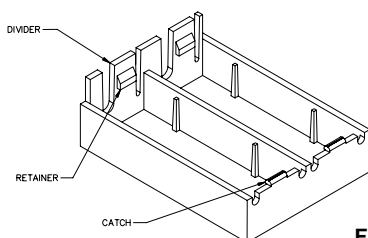

Figure 2
- Engage the right end ledge under the catch. (See Figure 2)